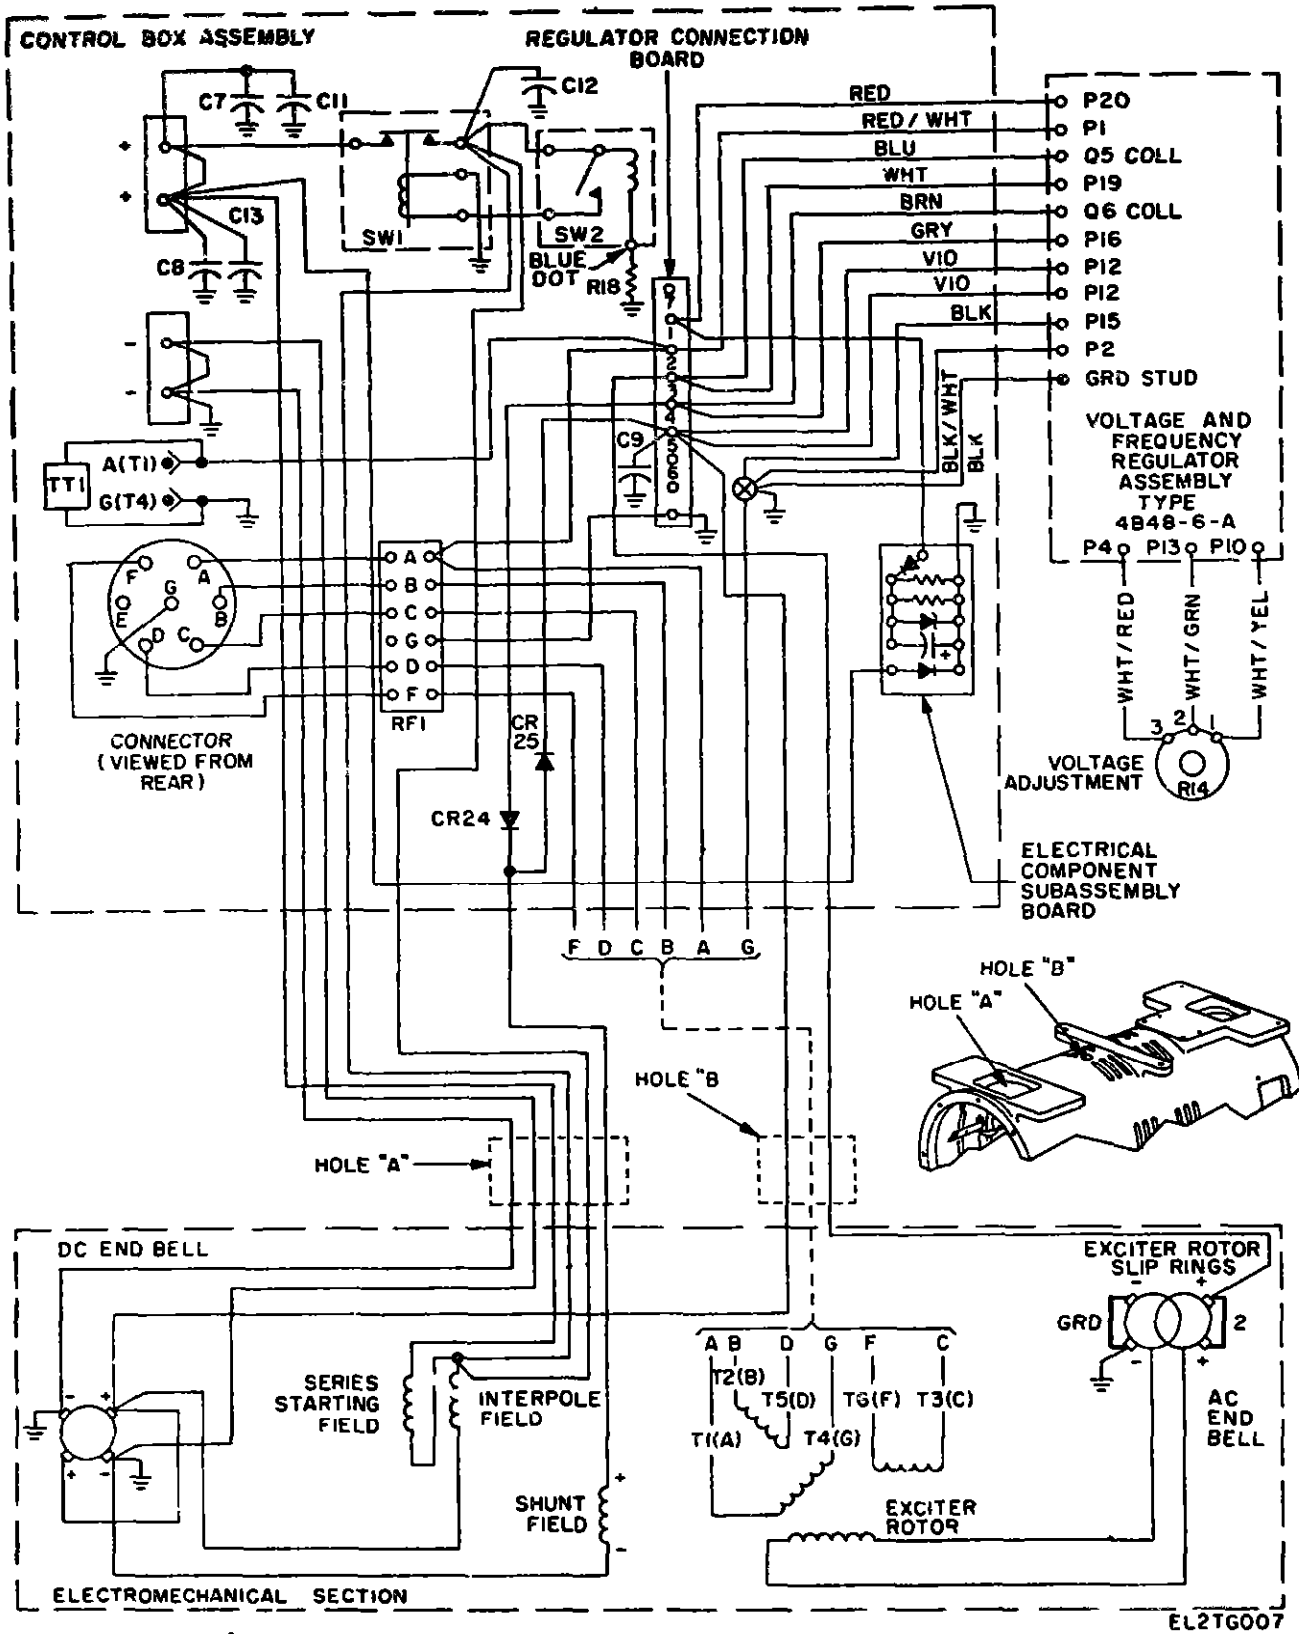

Figure 4-1. Interconnection wiring diagram and motor-generator PU-750(A)
With all power off make resistance measurements as follows (fig 4-1 or 4-2.1)
(1) If necessary, use fig. 4-1 or 4-2. as an aid in making continuity measurement
(2) If it is necessary to check the electrical components within the control box assembly, refer to Section V for electrical test values